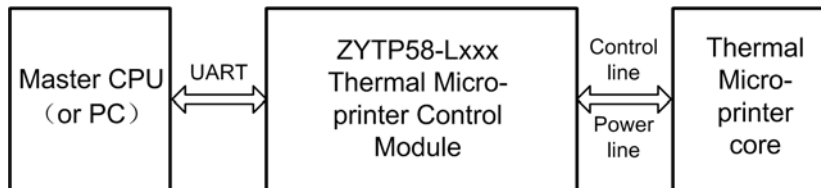

Figure 1-1: How to use ZYTP58-Lxxx
Figure 1-1 demonstrates how to use the ZYTP58-Lxxx series Micro-thermal printer control module:
- ZYTP58-Lxxx drives the Micro-thermal Printer Core for printing by controlling the control line and the power line, as Figure 1-1 shows.